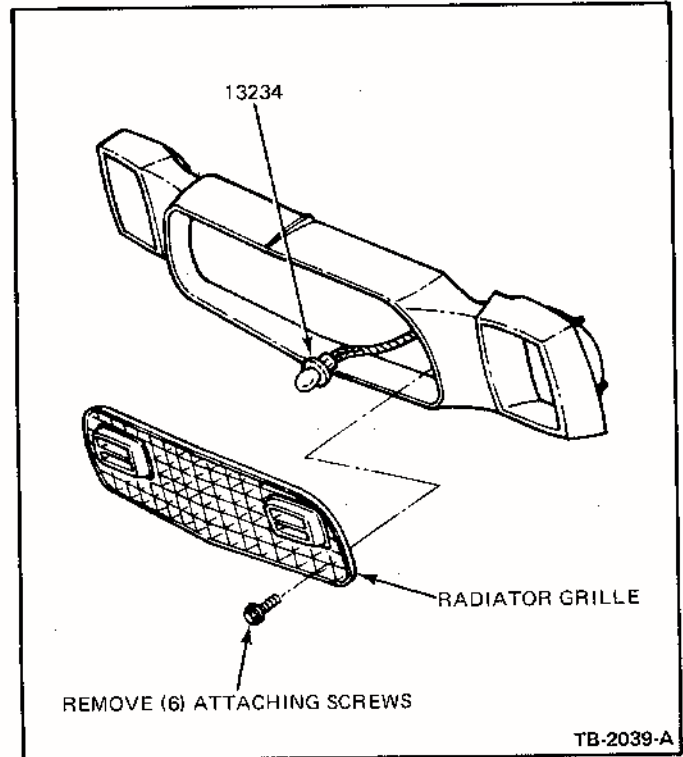

Fig. 6 – Article 756
1. Open the hood and remove the two (2) parking light bulb and socket assemblies from the parking lights by rotating the socket counterclockwise and pulling them out of the light body. (See Fig. 6).
2. Remove the six (6) grille attaching screw and remove the grille. (See Fig. 6).
2. Remove the six (6) grille attaching screws and remove the grille. (See Fig. 6).